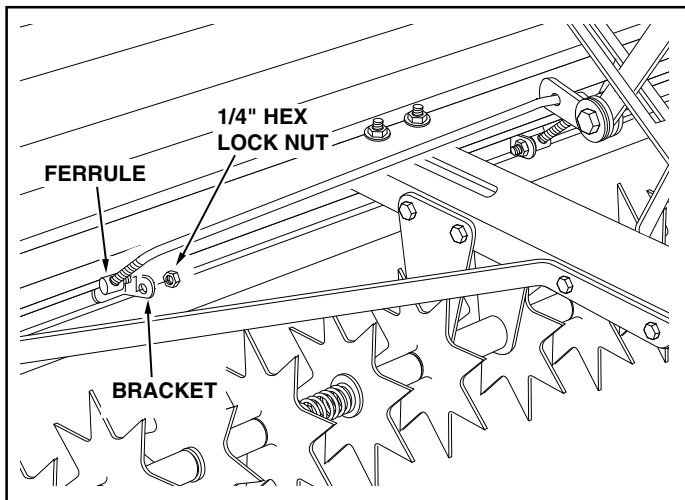

FIGURE 7
15. Check that both ferrules are adjusted so that approximately ten threads ($1/2''$) of the control rod is exposed. Insert both ferrules into the brackets which are riveted to the front of the flow plates. Assemble a $1/4''$ hex lock nut onto each ferrule, making only **finger tight** at this time. See figure 7.